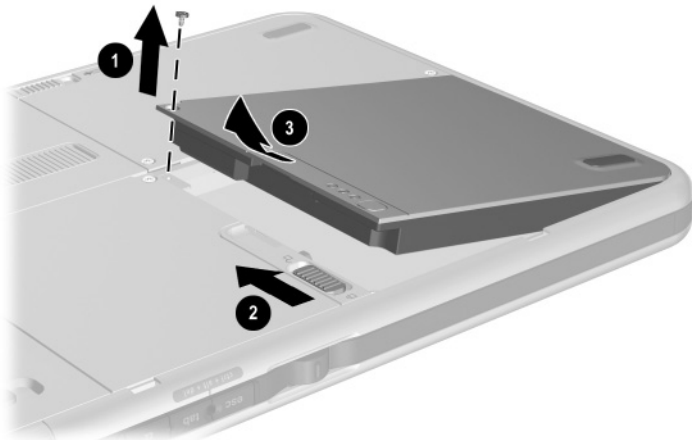

Figure 5-2. Removing the Battery Pack
- b. Remove the PM2.0 × 4.0 screw ❶ that secures the battery pack to the tablet PC (Figure 5-2).
- c. Slide the battery release latch ❷ toward the back of the tablet to release the battery pack.
- d. Use the notch in the battery pack to lift the left side of the battery pack up and swing it to the right ❸.